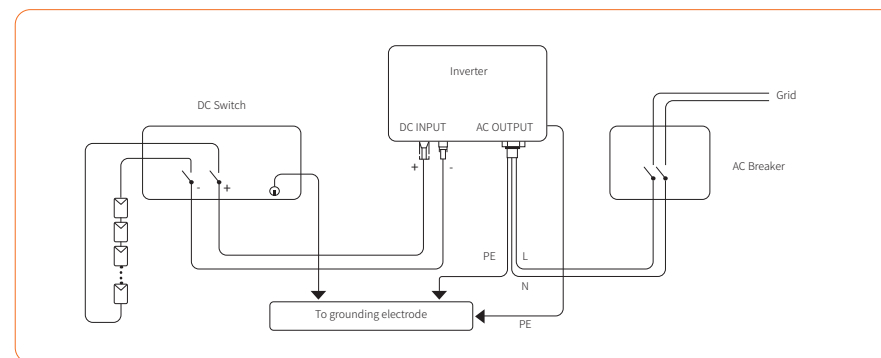

Figure 4-15
- ① The DC switch of Sunways inverter is optional. Local standards or codes may require that PV systems are fitted with an external DC switch on the DC side. The DC switch must be able to safely disconnect the open-circuit voltage of the PV array plus a safety reserve of 20%. Install a DC switch to each PV string to isolate the DC side of the inverter.
- ② The DC switch has to be certified by AS 60947.3:2018 and AS/NZS IEC 60947.1:2015. The Max.current of the DC switch matched by STS-7-11KTL inverter no less than 40A. We recommend the following electrical connection, as shown in Figure 4-15: